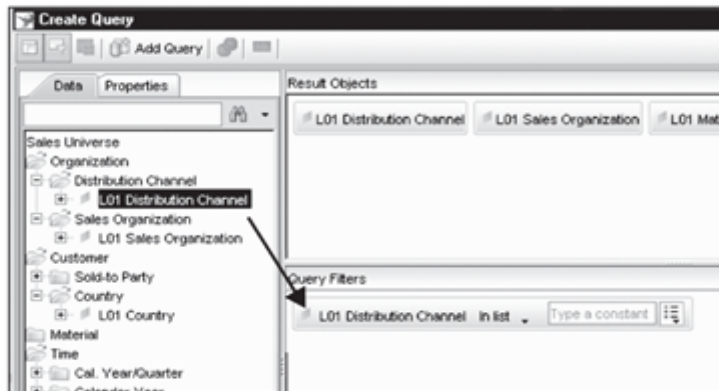

Figure 13.23 Add Query Filter
5. In the example scenario for ABCD Corp. used in this book, the sales are made through two different distribution channels: IT and direct sales. In this particular query, we need only the direct sales to be displayed in the result, so we need to restrict the query to Distribution Channel = Direct Sales. To achieve this, drag the distribution channel from the Data section to the Query Filters section (Figure 13.23).